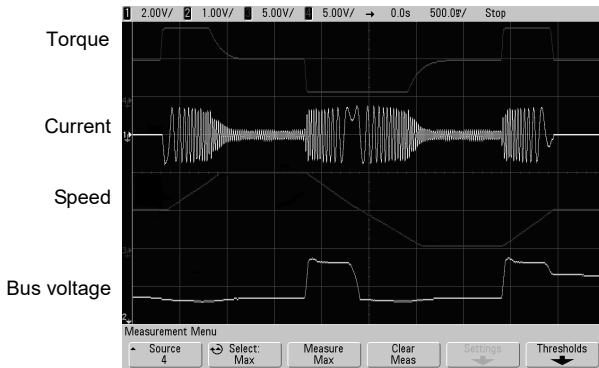

Figure 1 Quick acceleration/deceleration four–quadrant running in the form of 0Hz
- ◆ Figure 1 indicates the four-quadrant running of the motor in speed sensor-less vector control. The torque, current, speed and DC bus voltage have quick response to ensure the stable running of the motor.